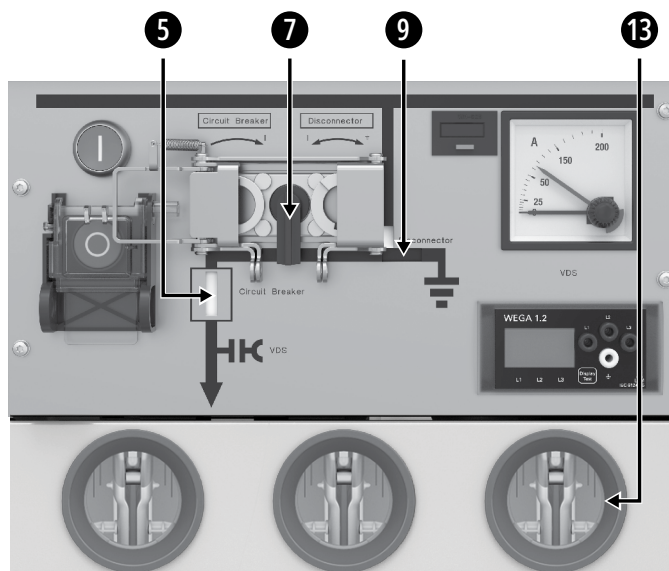

Figure 4-5: Panel in Neutral position
In the **Neutral position**, see figure 4-5
1. Check the position indication to verify that the change-over switch is in the earth position. In addition the earth position can be determined through the inspection windows (13); see figure 4-5. Check the position of all three phases as follows: